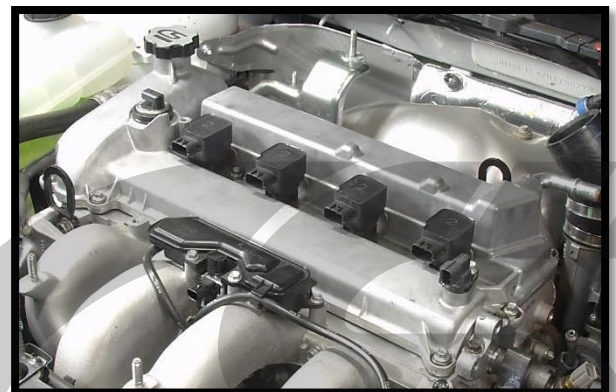

Figure 7d
- f) Replace the valve cover (Figure 7d). Tighten down the fourteen (14) bolts starting from the center bolts and working your way outward 71-92 in-lbs.
- h) Replace the four (4) spark plug coils (Figure 7d).